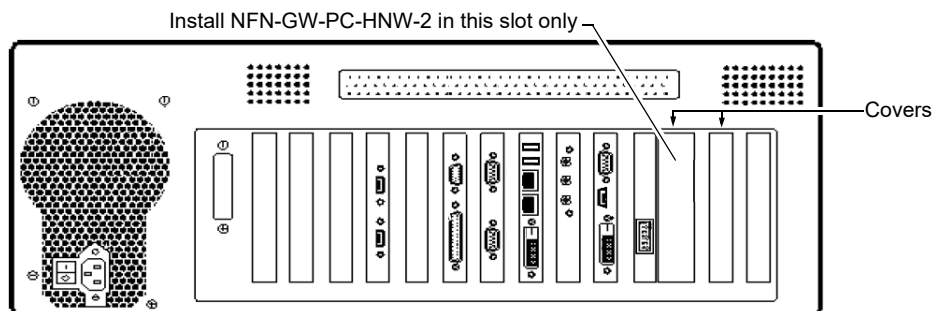

Figure 2.2 NFN-GW-PC-HNW-2 Gateway Board Mounting Location
- For the NFN-GW-PC-HNW-2 only, locate the PCI slot at the location shown in Figure 2.2. This slot must be used.
- For the NFN-GW-PC-HNW-2 on older workstation PCs with a narrow slot in the backplate only (see Figure 2.2):
- a. Remove the two PCI slot covers shown in Figure 2.2 and save the screws.